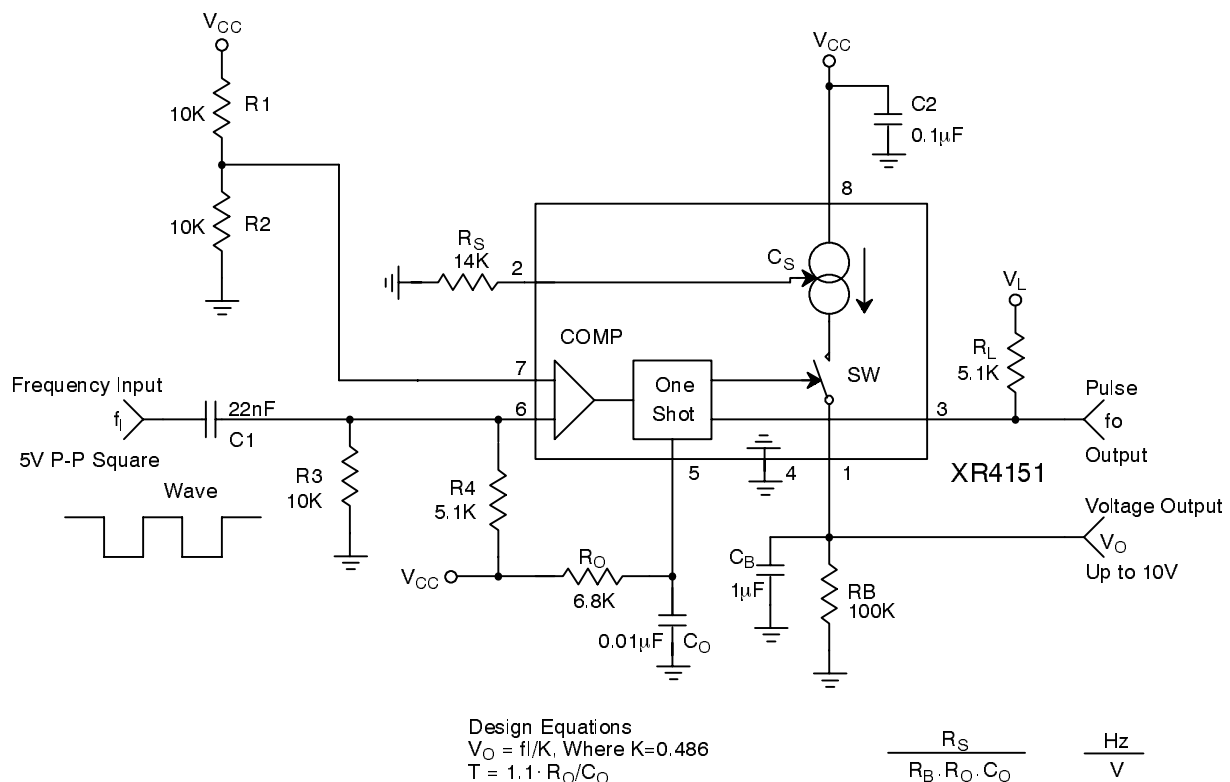

Figure 4. Frequency to Voltage Converter
The XR4151 can be used as a frequency-to-voltage converter. *Figure 4* shows the single-supply FVC configuration. With no signal applied, the resistor bias networks tied to pins 6 and 7 hold the input comparator in the off state. A negative going pulse applied to pin 6 (or positive pulse to pin 7) will cause the comparator to fire the one-shot. For proper operation, the pulse width must be less than the period of the one-shot, $T = 1.1 R_0 C_0$. For a 5Vpp square-wave input the differentiator network formed by the input coupling capacitor and the resistor bias network will provide pulses which correctly trigger the one-shot. An external voltage comparator can be used to “square-up” sinusoidal input signals before they are applied to the XR4151. Also, the component values for the input signal differentiator and bias network can be altered to accommodate square waves with different
- I. Design a precision VFC (from *Figure 4*) with $f_0 = 100kHz$ and $V_{IO} = -10V$.